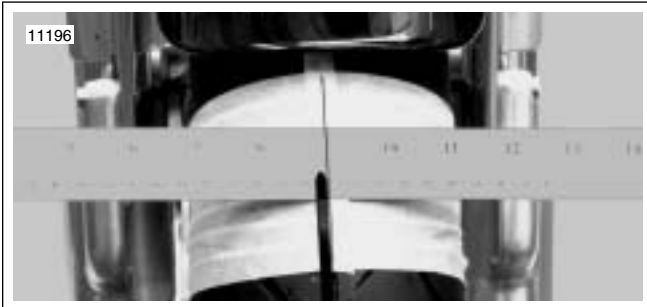

Figure 1-55. Fall-Away Measurement
3. See Figure 1-55. Place masking tape on front tire. Tape ruler over taped area on front tire and draw a line on the masking tape even with the ruler center.